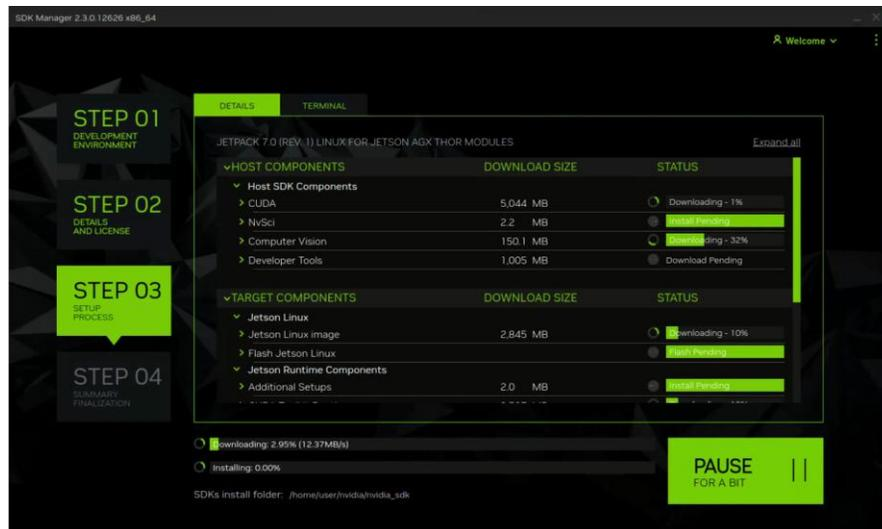

Figure 6.19. STEP 03 – Setup Process
- In **STEP 03** panel, the **SDK Manager** will prompt for a **sudo** password. Enter the password and click **OK**. The software download and installation process begins. The progress is shown in Figure 6.19.